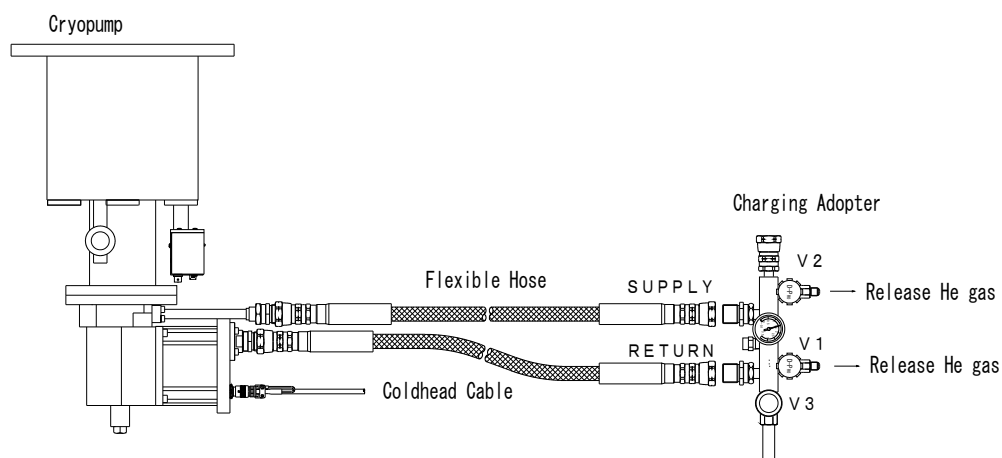

Figure 8-3 Connecting Charging Adaptor
4. Attach the charging adaptor to the disconnected end of the helium SUPPLY and RETURN flexible hoses.(See Figure 8-3)